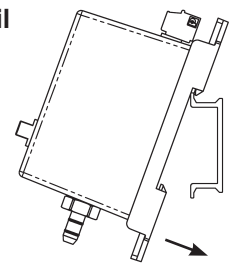

Fig. 3: Catch the EZ Mount hook on the edge of the DIN Rail, then rotate into place
- Catch the EZ mount hook on DIN rail as shown in Fig 3.